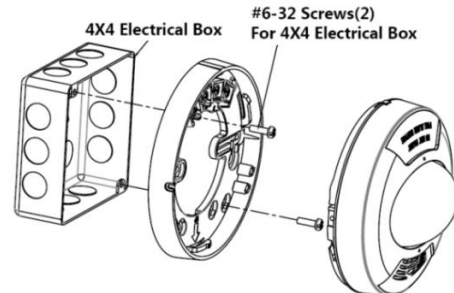

Figure 2. Base Installation
1. Mount the base onto a 4x4 electrical box using the screws provided, see Figure 2.